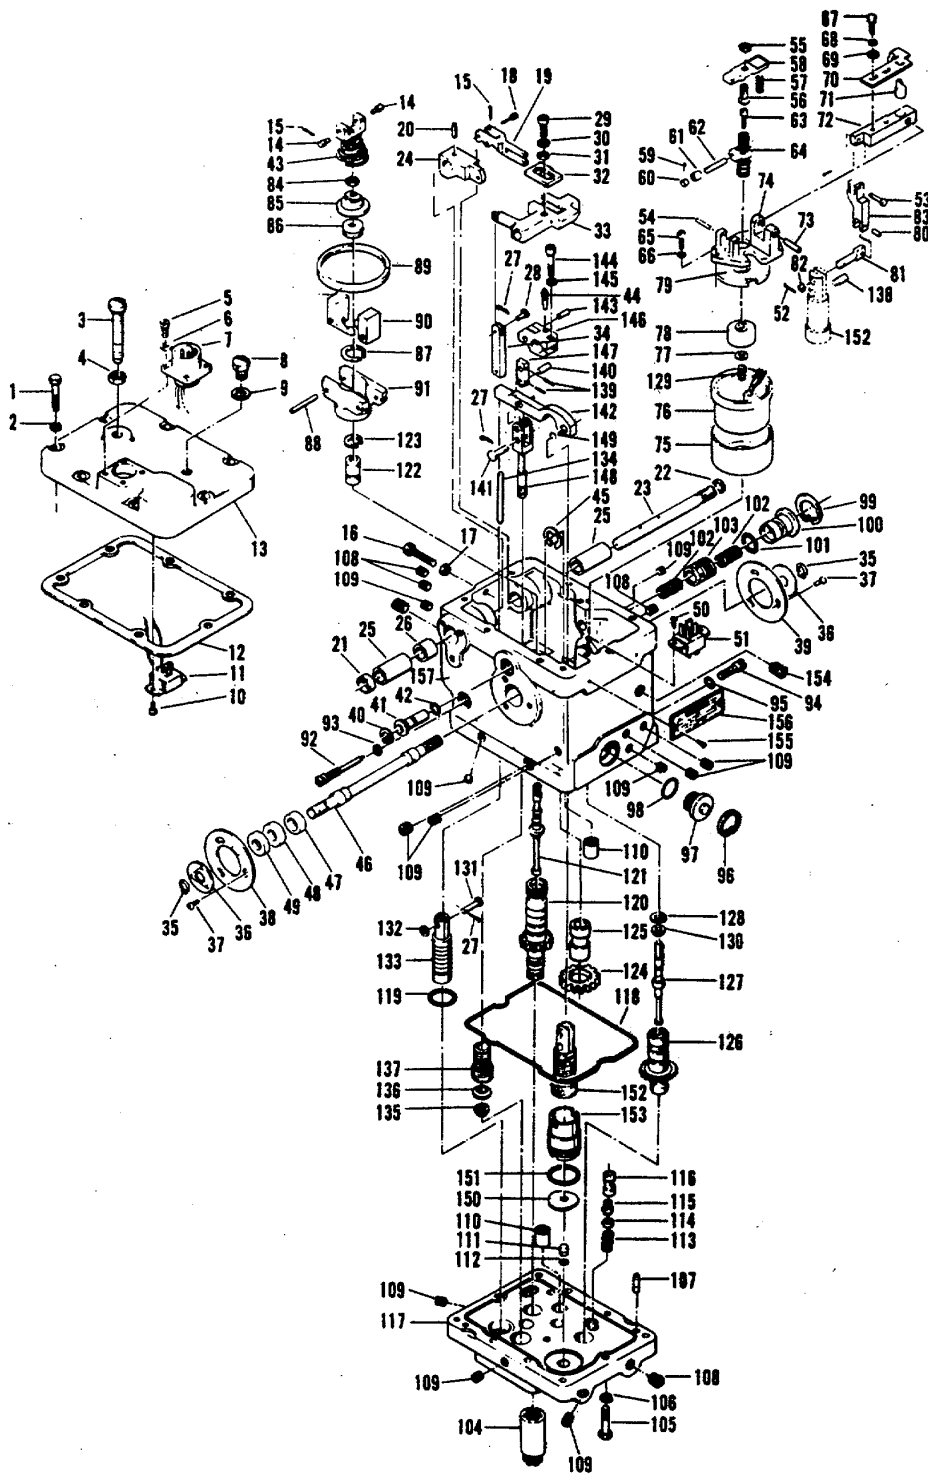

Figure 12-3. Governor Actuator, Exploded View
(2) Drive the unit in the normal clockwise direction of rotation.
(3) Remove cover (13, figure 12-3) and use adapter plate
(4) Turn spring seat (56, figure 12-3) until the pilot valve plunger for the actuator gently bottoms, then back off two turns. Screw spring seat screw (56) until actuator's power piston (152, figure 12-3) is all the way up, eliminating interference from the actuator.
(5) Check pointer alignment with maximum position on dial plate by rotating terminal shaft in the increase fuel direction until the power piston is all the way up.
LEGEND FOR FIGURE 12-3
b. Figure 12-3 shows the speed adjustment shaft (23), and the high (16) and low (3) speed stop screws. Use the speed adjusting shaft to change speeds between these preset ranges. Speed may be changed remotely with the speed adjusting shaft and the proper connections.
- a. Disassembly. When repairing, do not disassemble the unit or its various subassemblies any further than necessary. Refer to figure 12-3.
- (1) Remove screw (1), lockwasher (2), cover (13), and gasket (12).
- (2) Remove pins (14) from speeder spring assembly (43), pin (18) from floating lever (19) and take out floating lever.
- (3) Remove pin (20) and tapered plug (21). Do not damage shaft bushing (25), or bore.
- (4) Drive speed adjusting shaft (23) toward opposite side